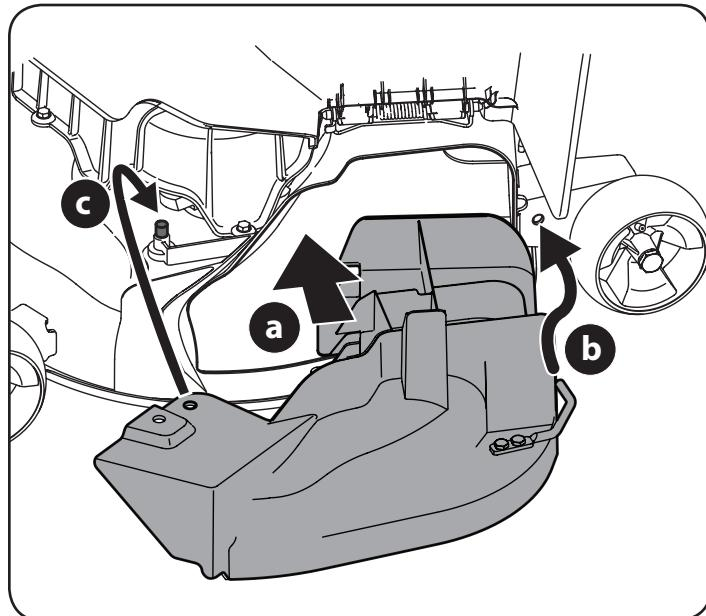

Figure 5
- To install the mulch plug, pivot the discharge chute upward and refer to Figure 5: